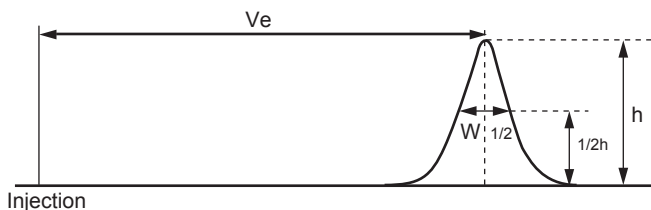

Figure 4 Method of Calculating Theoretical Plate Number
The theoretical plate number (N) of a column is calculated by the half width method shown in Figure 4 and the following equation.